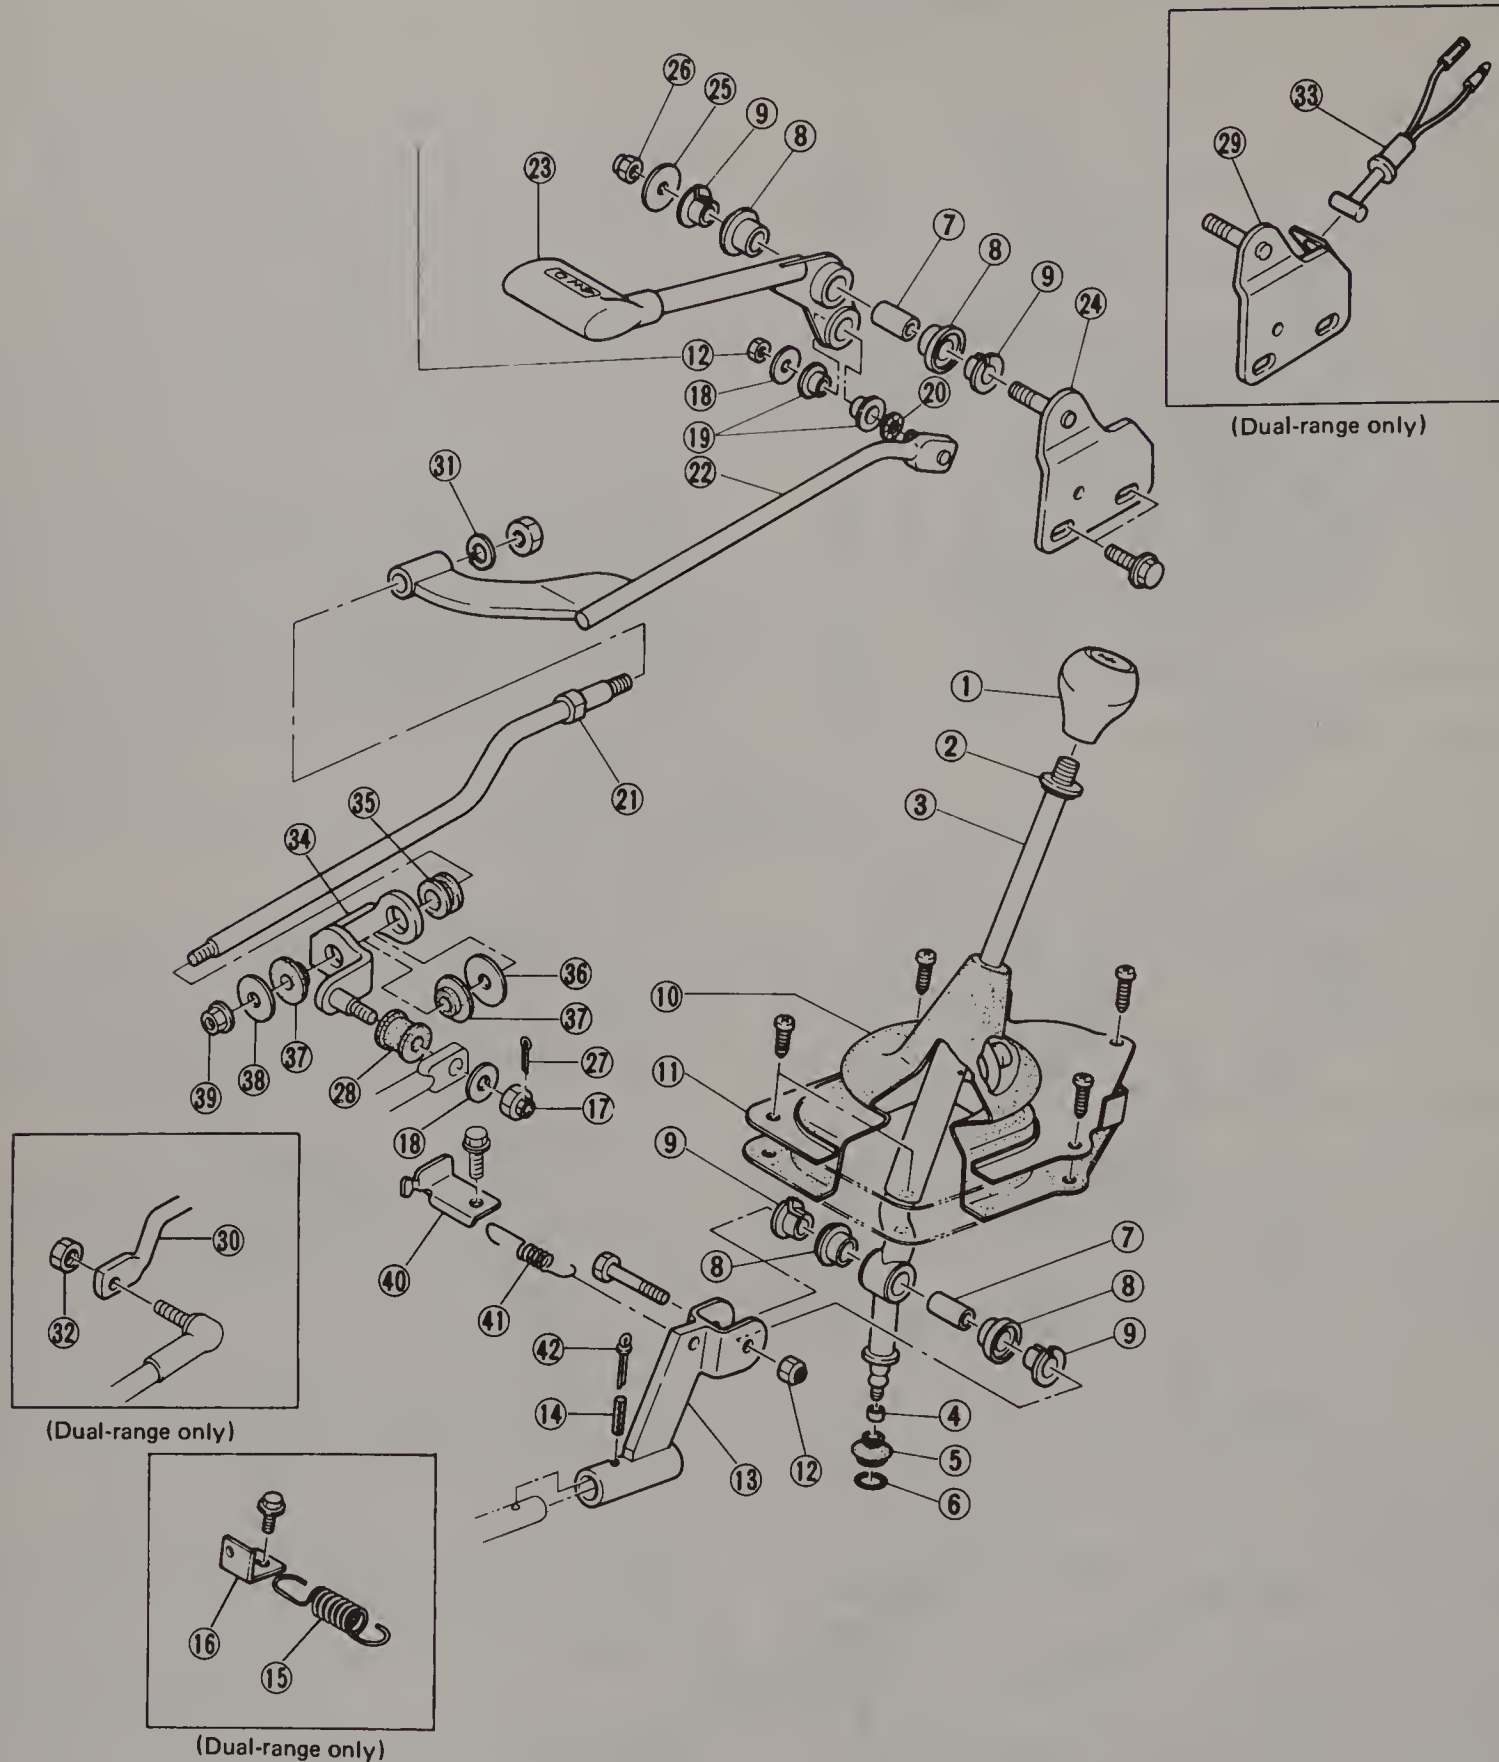

Fig. 7.3 Manual transmission shifter components (4WD) – exploded view (Sec 4)
- d) Remove the nut connecting rod B to rod A (see Fig. 7.3).